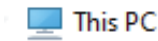

Figure 3
3. RightClick **"This PC"**: (figure 3) . After you right click**"This PC,"** you will see a **"Manage"** option, click it.